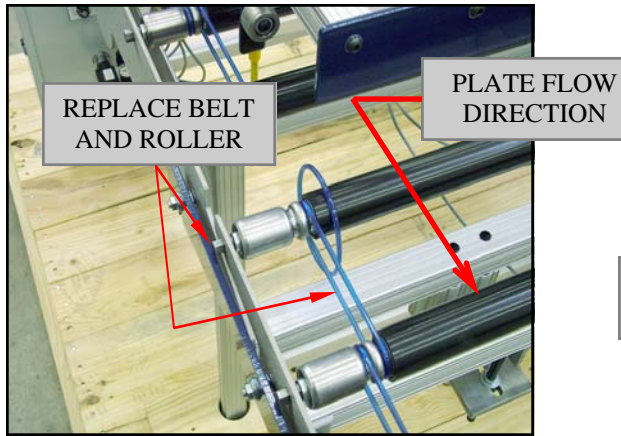

Figure 7
5. Reinstall roller in side frame of the Q2K Plus. (See Figure 7)